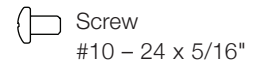

Fig. 1
2. Place drawer on its back. Install caster bracket onto underside of drawer body using (4) 1/4-20 x 3/8" pan head screws. **(Fig. 1)**
3. Install 2" diameter caster onto caster bracket using (4) #10-24 x 3/8" pan head self-threading screws. **(Fig. 1)**